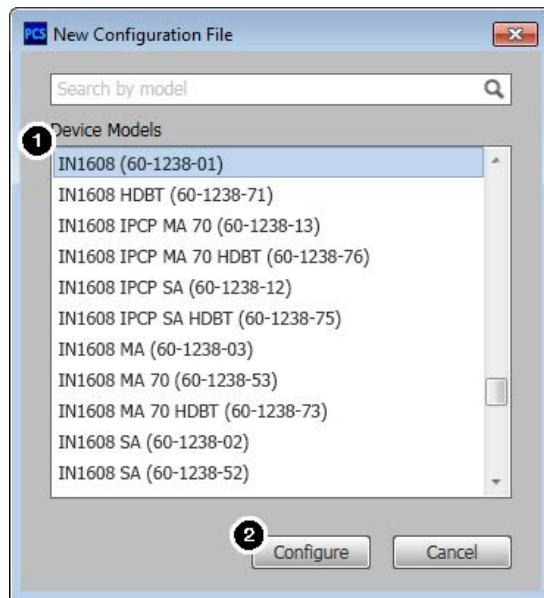

Figure 39. New Configuration File Dialog Box (IN1608 Selected)
2. Select the desired device model from the **Device Models** list (see figure 39, ①).
3. Click the **Configure** button (②). A new offline device configuration tab opens.